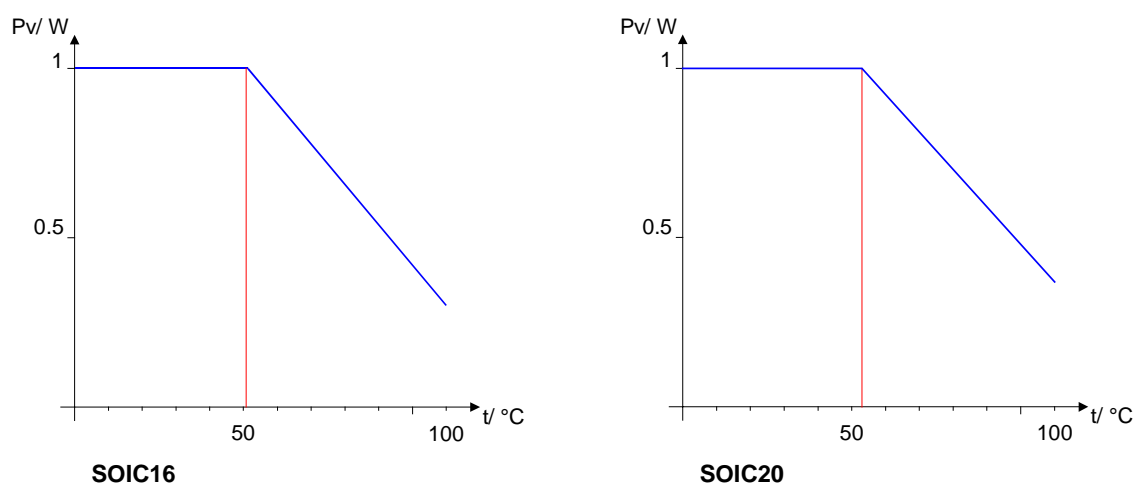

Figure 2 Max. acceptable power dissipation relative to ambient temperature
- 6 Free convection, see Figure 2
- 3 Power dissipation restrictions as per Figure 2 to be observed